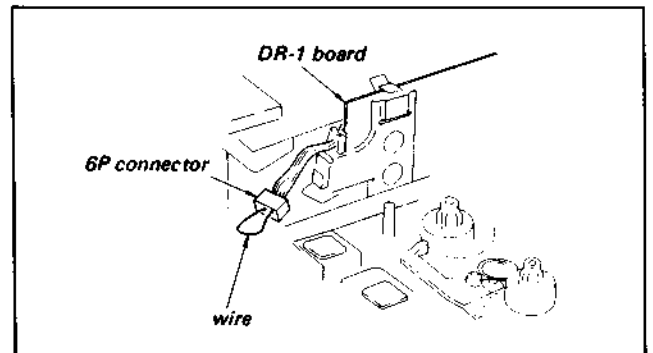

Fig. 1-7.
B. With front loading (cassette lift) assembly removed (See Fig. 1-7)